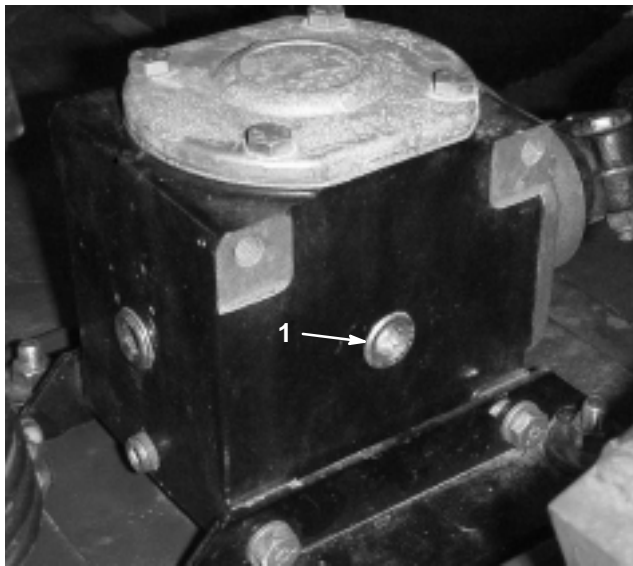

Figure 22
2. Position the machine and cutting unit on a level surface and lower the cutting unit. Remove the fill/check plug from the side of the gear box (Fig. 22) and make sure that the lubricant is up to the bottom of the hole. If the lubricant level is low, add SAE 80–90 wt. gear lube until the level is up to the bottom of the hole.